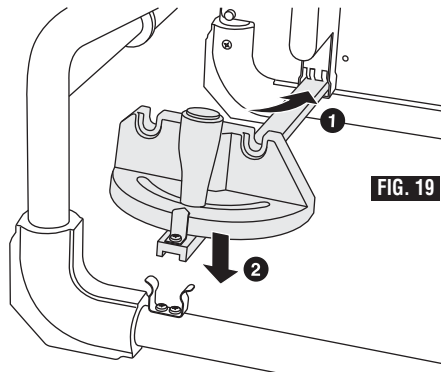

FIG. 19
1. Insert the front end of the miter guide into the slot located at the bottom of the push stick holder (Fig. 19).